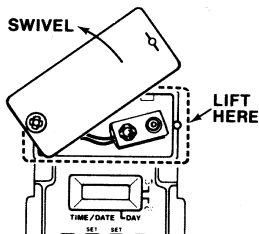

Figure 3. Battery Cover
3. Install a 9V alkaline battery (not provided). Remove battery cover. See Figure 3 below. Snap battery into battery clip. Replace battery cover.